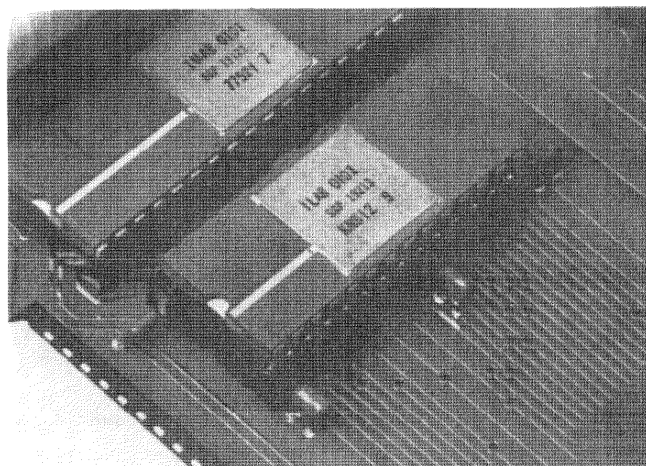

Figure 2-5. Positioning IC For Insertion
- a. Position the IC over the socket so that the semicircle in the top end of the IC is pointing in the same direction as the semicircle in the socket. (See figure 2-5.)